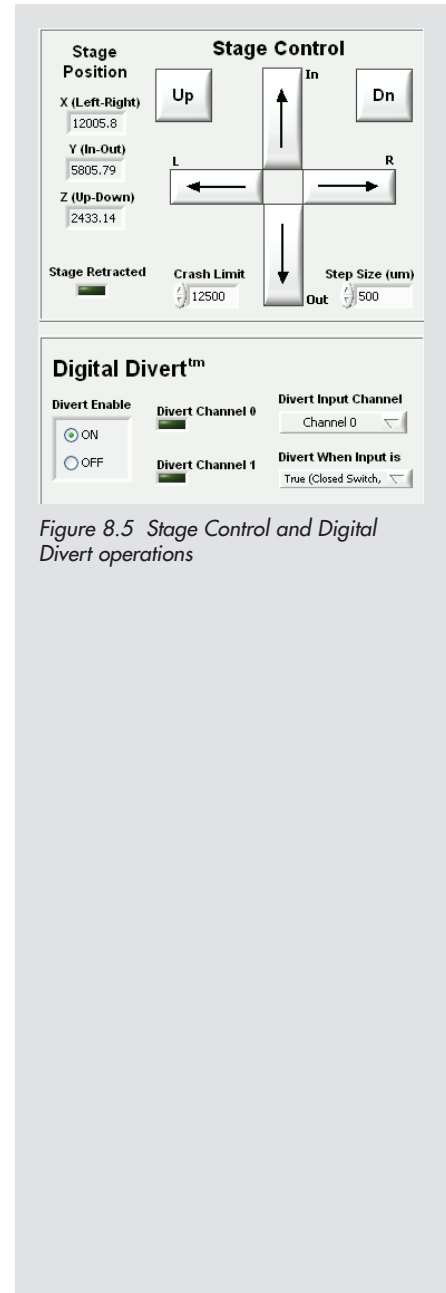

Figure 8.5 Stage Control and Digital Divert operations
3. Select Channel 0 or Channel 1 from the *Divert Input* drop-down menu (Fig. 8.5).